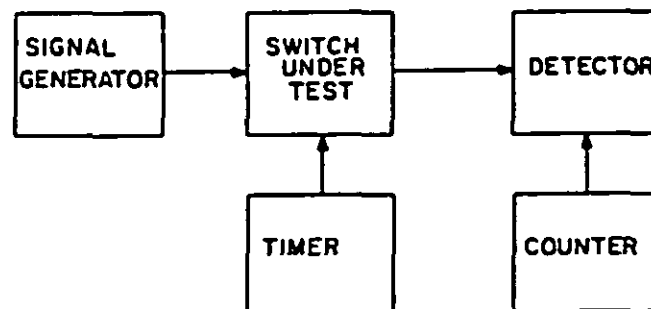

FIGURE 1. Run-in and cycle life test setup.
4.7.3 Run-in (see 3.5.2). Using the test setup of figure 1, the switch shall be operated at a rate not to exceed one position per second for 4,800 cycles. One cycle shall consist of switching from the initial position into each other position and returning to the initial position. Switches with externally accessible contacts (such as indicating or interlock circuit contacts) shall have the contact resistance of these contacts measured and recorded both before and after run-in. Any contact resistance measurement greater than 240 milliohms shall be cause for rejecting these switches.